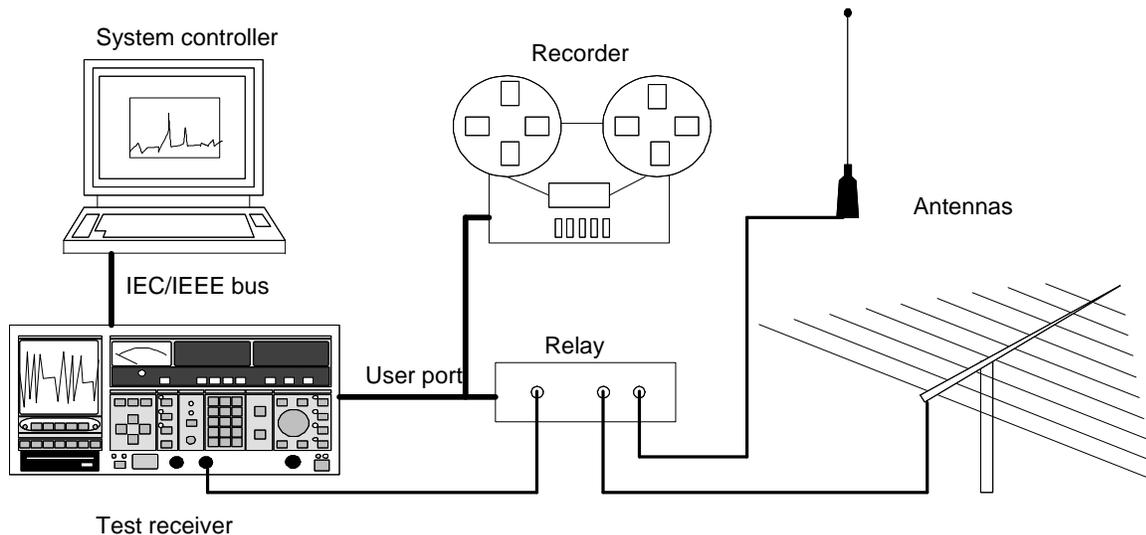

FIG 2: Test setup
- Automatic activation via a user port with programmable waiting times makes it possible to carry out complex measurements with several antennas (FIG 2).